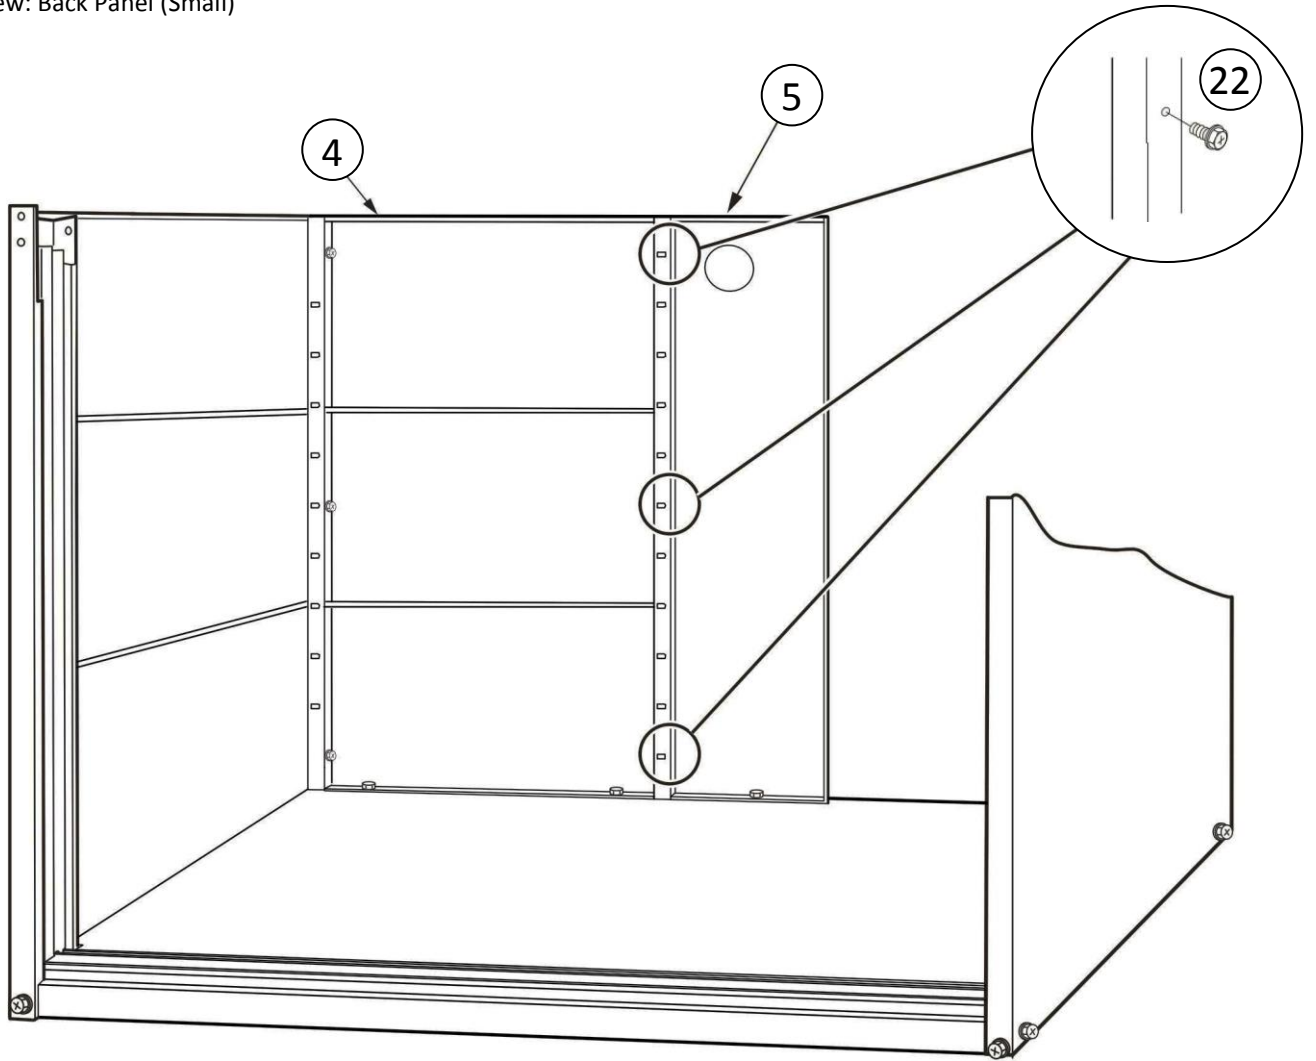

Figure 5.
Secure [Part 4] Back Panel (Large) to [Part 1] Metal Base using 2no. [Part 22] Hexagon Bolt with Rubber Washer as shown in Figure 5.
(GB) Combine [Part 5] Back Panel (Small) with [Part 4] Back Panel (Large) and secure using 4no. [Part 22] Hexagon Bolt with Rubber Washer as shown in Figure 5.